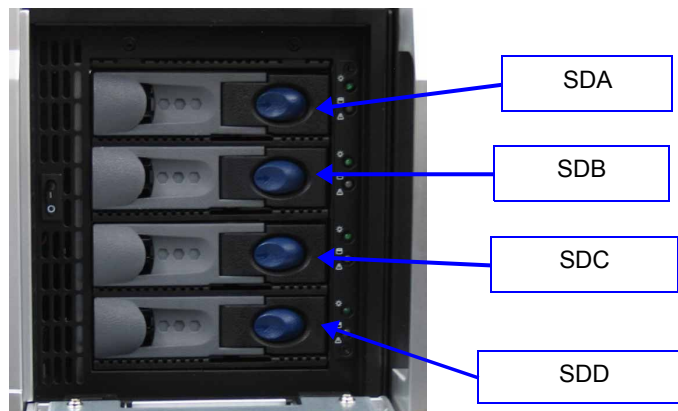

Figure 35: DCP-2K4 HDD Bay Positions
- For DCP-2K4 units (Figure 35):